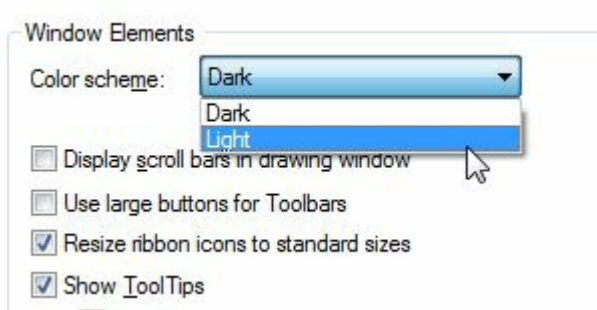

Figure-12. Light option in Color scheme drop-down
- Select the **Light** option from the drop-down; refer to Figure-12.